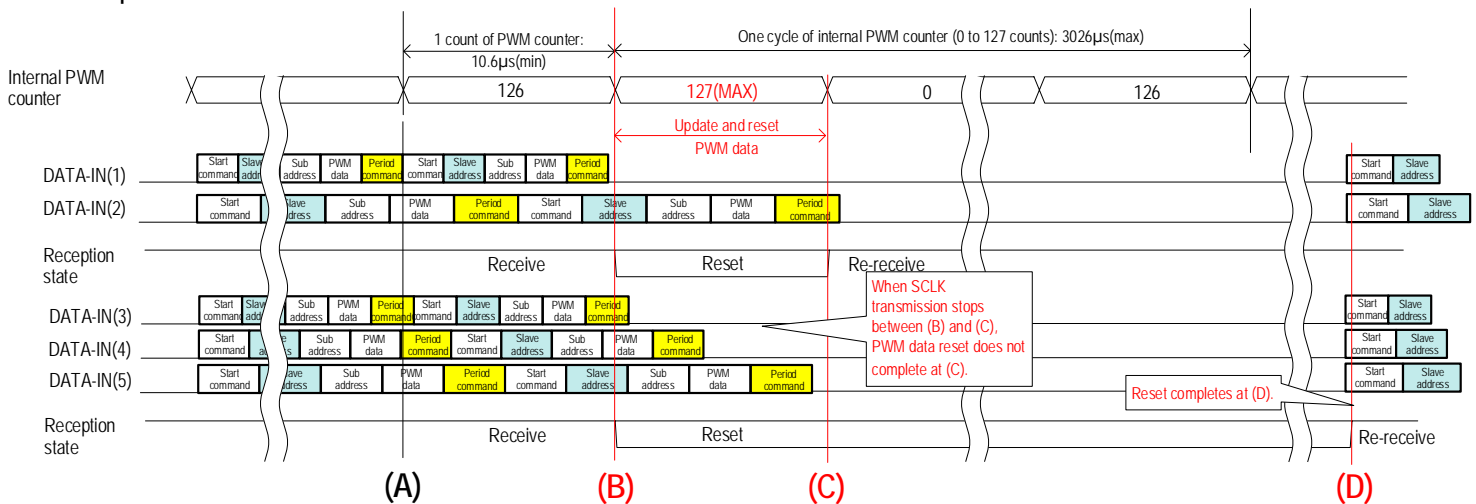
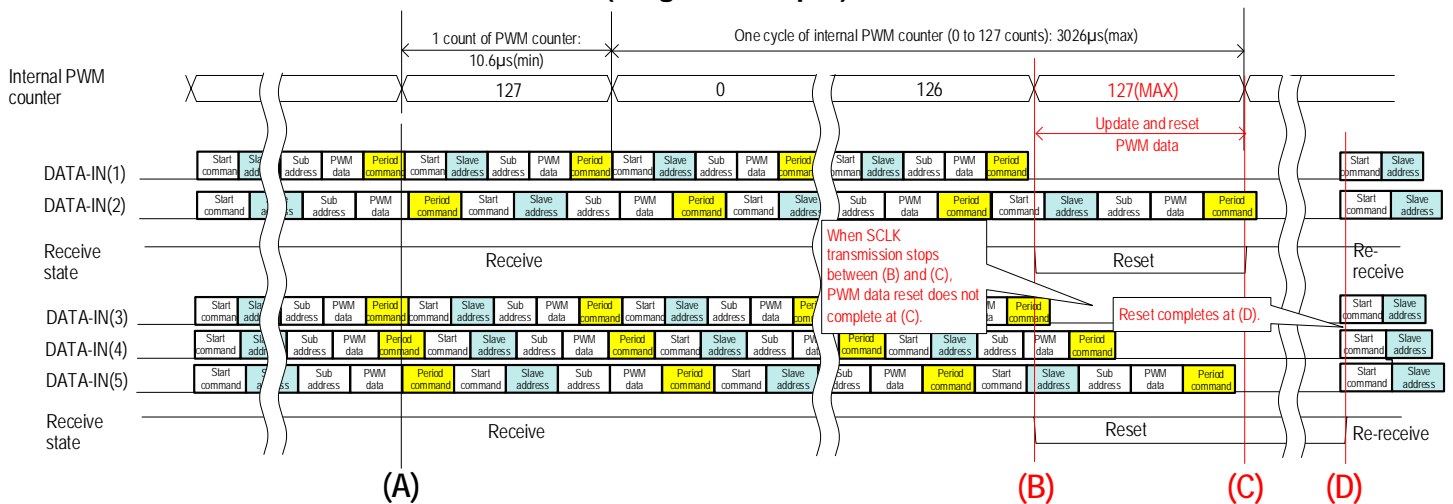

Figure 4-32 Relation of DATA-IN and PWM counter: 127th PWM counter timing comes earlier (Single-wire input)
Figure 4-33 Relation of DATA-IN and PWM counter: 127th PWM counter timing comes later (Single-wire input)
Occurrence of errata depends on the PWM counter timing. Figure 4-32 and the figure 4-33 show the timing charts, where errata do not occur (charts of DATA-IN (1) and (2)) and occur (charts of DATA-IN (3), (4), and (5)).
Figure 4-32 shows the example when 127th PWM counter timing comes earlier, and the figure 4-33 shows when it comes later.